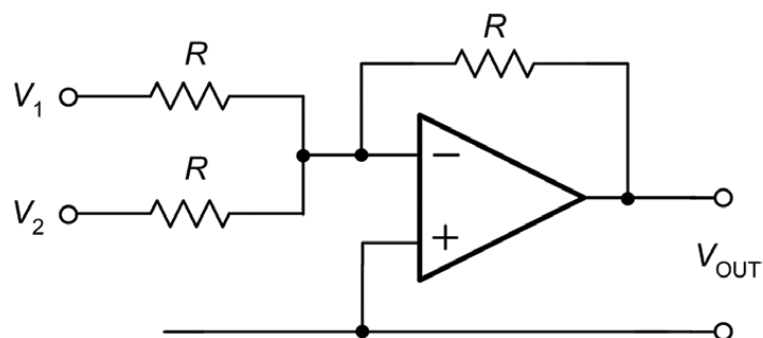

Figure 1.48 A summing amplifier
- A summing amplifier using an operational amplifier is shown in Fig. 1.48.